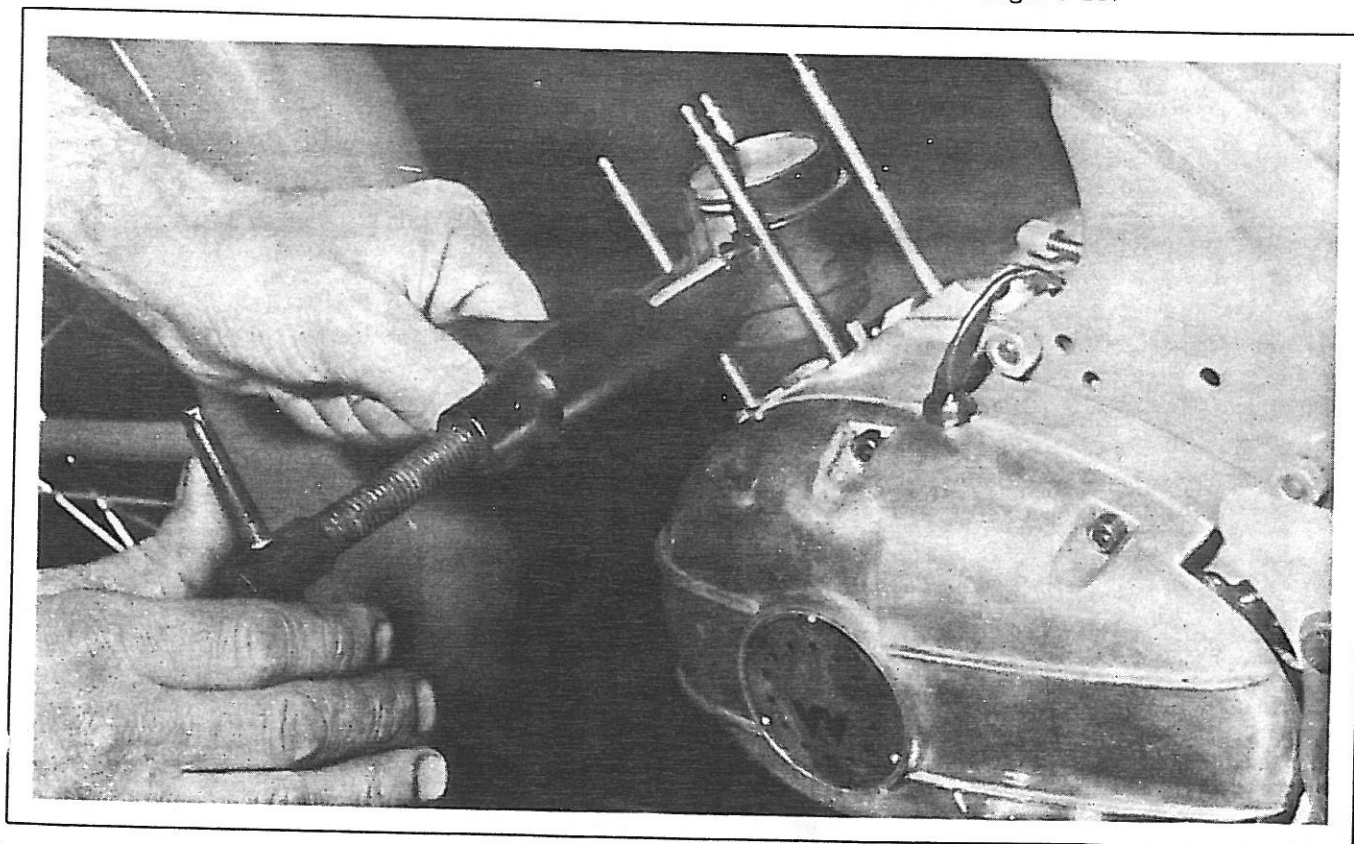

Figure 11.
4. Use tool H to force out piston pin (Figure 11).